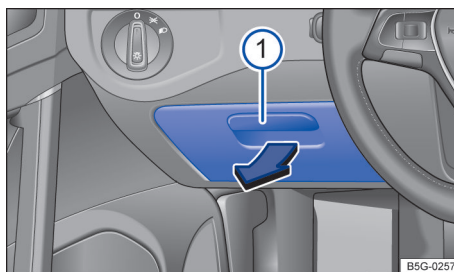

Fig. 126 On the driver side: Storage compartment.
- To open: Pull the handle → **fig. 126** **1** in the direction of the arrow.